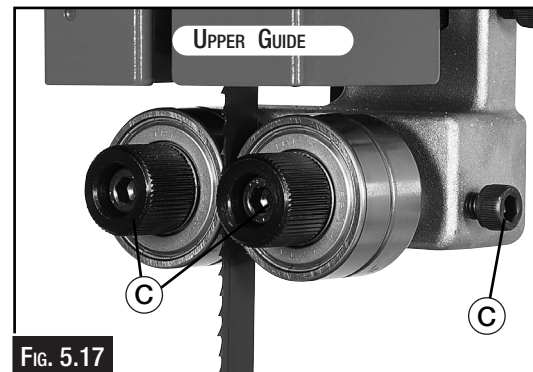

FIG. 5.17
3. Familiarize yourself with the blade guide controls shown in Fig. 5.17.